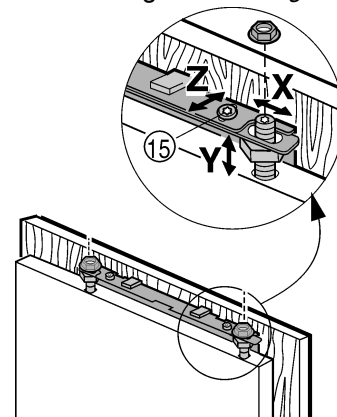

Fig. 22
- ▶ Align the unit door in depth Z : loosen the upper screws Fig. 22 (15), lower screws Fig. 23 (24), then move the door.